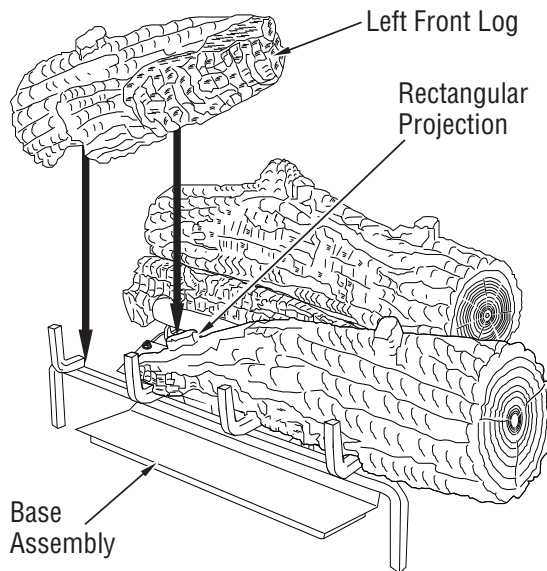

Figure 52 - Installing Left Front Log
4. Place the left front log onto the base and the right front log as shown in **Figure 52**. The left front log has a notch on the bottom that will line up with the projection on the right front log.